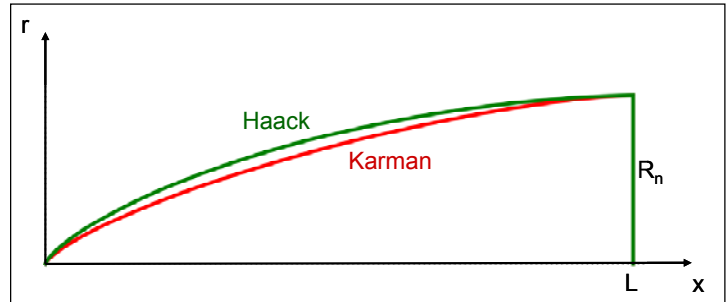

Figure A-15. Sharp Haack and Karman Nose Geometries
The Haack series noses were designed to minimize drag. The Haack nose shape within Missile DATCOM is the same as the Haack-LV, which minimizes drag for a given length and volume, while the (Von) Karman nose shape is the Haack-LD, which minimizes drag for a given length and diameter. A comparison of the sharp Haack and Karman nose shapes can be seen in Figure A-15. The Von Karman nose shape is a special case of the Haack series where the Haack series constant (C) is 0, while the Haack (-LV) has a series constant of $(1/3)$.